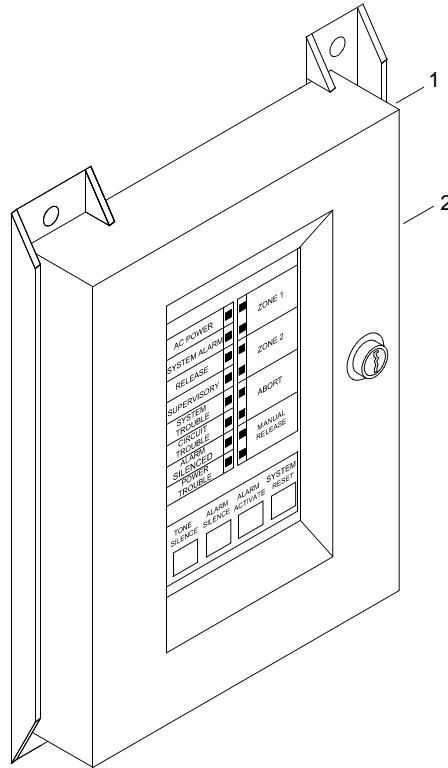

Figure 4. Fire Alarm Control Panel
2. On fire alarm control panel (figure 4, item 1), unlock and open front cover (figure 4, item 2)
7. Close and lock front cover (figure 4, item 2).